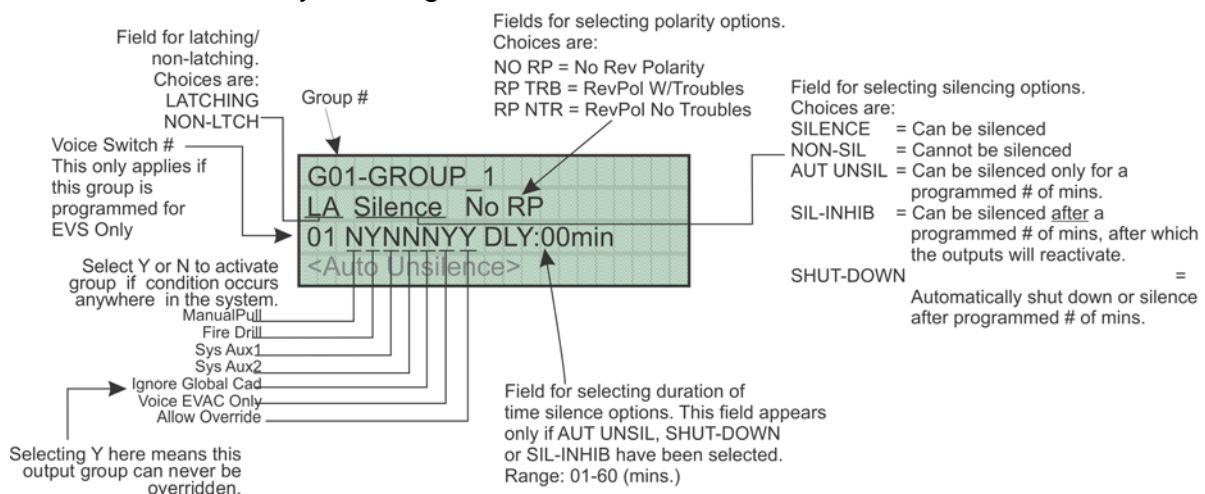

Figure 7-8 Group Properties Screen Programming Options
- Define output group type as voice or non-voice and Allow Override. These options are for EVS Only. See Figure 7-8.
AUT UNSIL	Auto Unsilenced. If this option is selected, the output group can be silenced for a programmed time-frame. If the condition that caused the output to activate has not cleared during the time-frame, the output reactivates. If you select this option, select the time-frame in the DLY: field. Range is 00-60 minutes. (See Figure 7-8 for location of field.)
SIL-INHIB	Timed Silence after Inhibit. If this option is selected, the output group must be audible for a programmed number of minutes before it can be silenced. If the condition that caused the output to activate has not cleared during the time-frame, the output can be silenced. If you select this option, select the timeframe in the DLY: field. Range is 00-60 minutes. (See Figure 7-8 for location of field.)
SHUT-DOWN	If this option is selected, the output group will automatically silence (shut down) after the programmed time period. If you select this option, select the timeframe in the DLY: field. Range is 01-60 minutes. (See Figure 7-8 for location of field.)
You can select whether an output group will respond to various system-wide occurrences. (See Figure 7-8 for location of this field.)